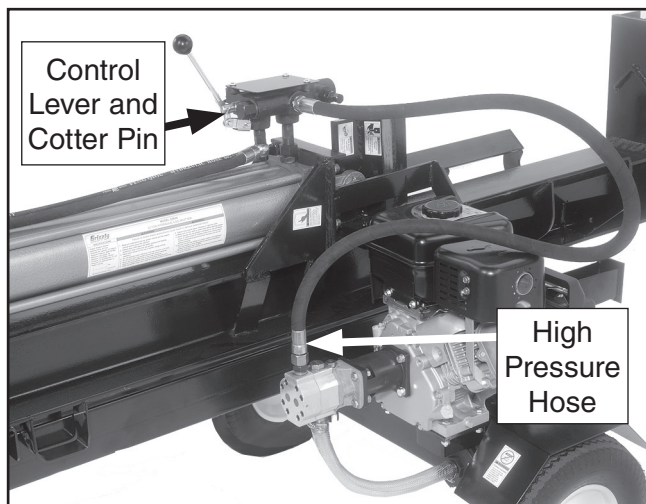

Figure 16. High pressure hose and control lever.
23. Using a screwdriver, unthread the plastic plug from the high pressure hose (**Figure 16**).
24. Install the high pressure hose onto the pump pressure fitting (**Figure 16**), making sure the O-ring stays in place.
25. Connect the control lever (**Figure 16**) to the control valve linkage with the clevis pin.